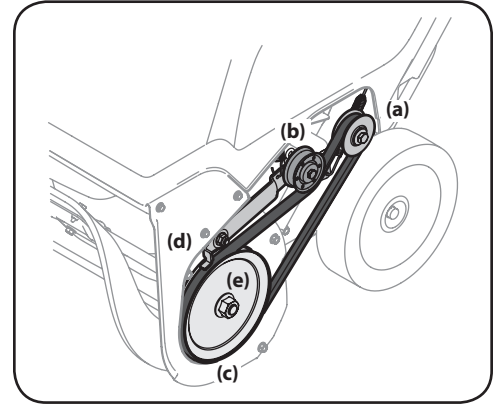

Figure 4-6
7. Route the belt around the drive pulley (a) and under the idler pulley (b). See Figure 4-6.